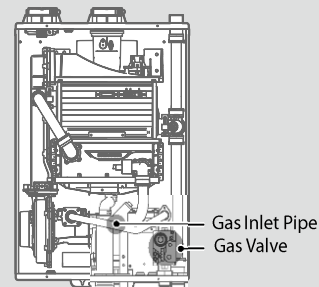

Figure 3. Gas Valve
8. With the internal components exposed, locate the gas inlet pipe and the gas valve in the middle of the unit as shown in Figure 3.